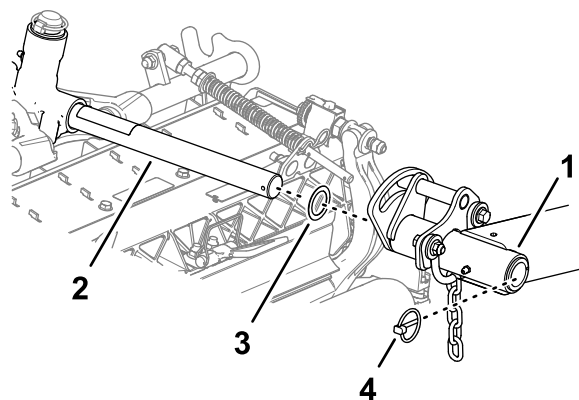

Figure 19
- Slide a cutting unit under the lift arm (Figure 19).